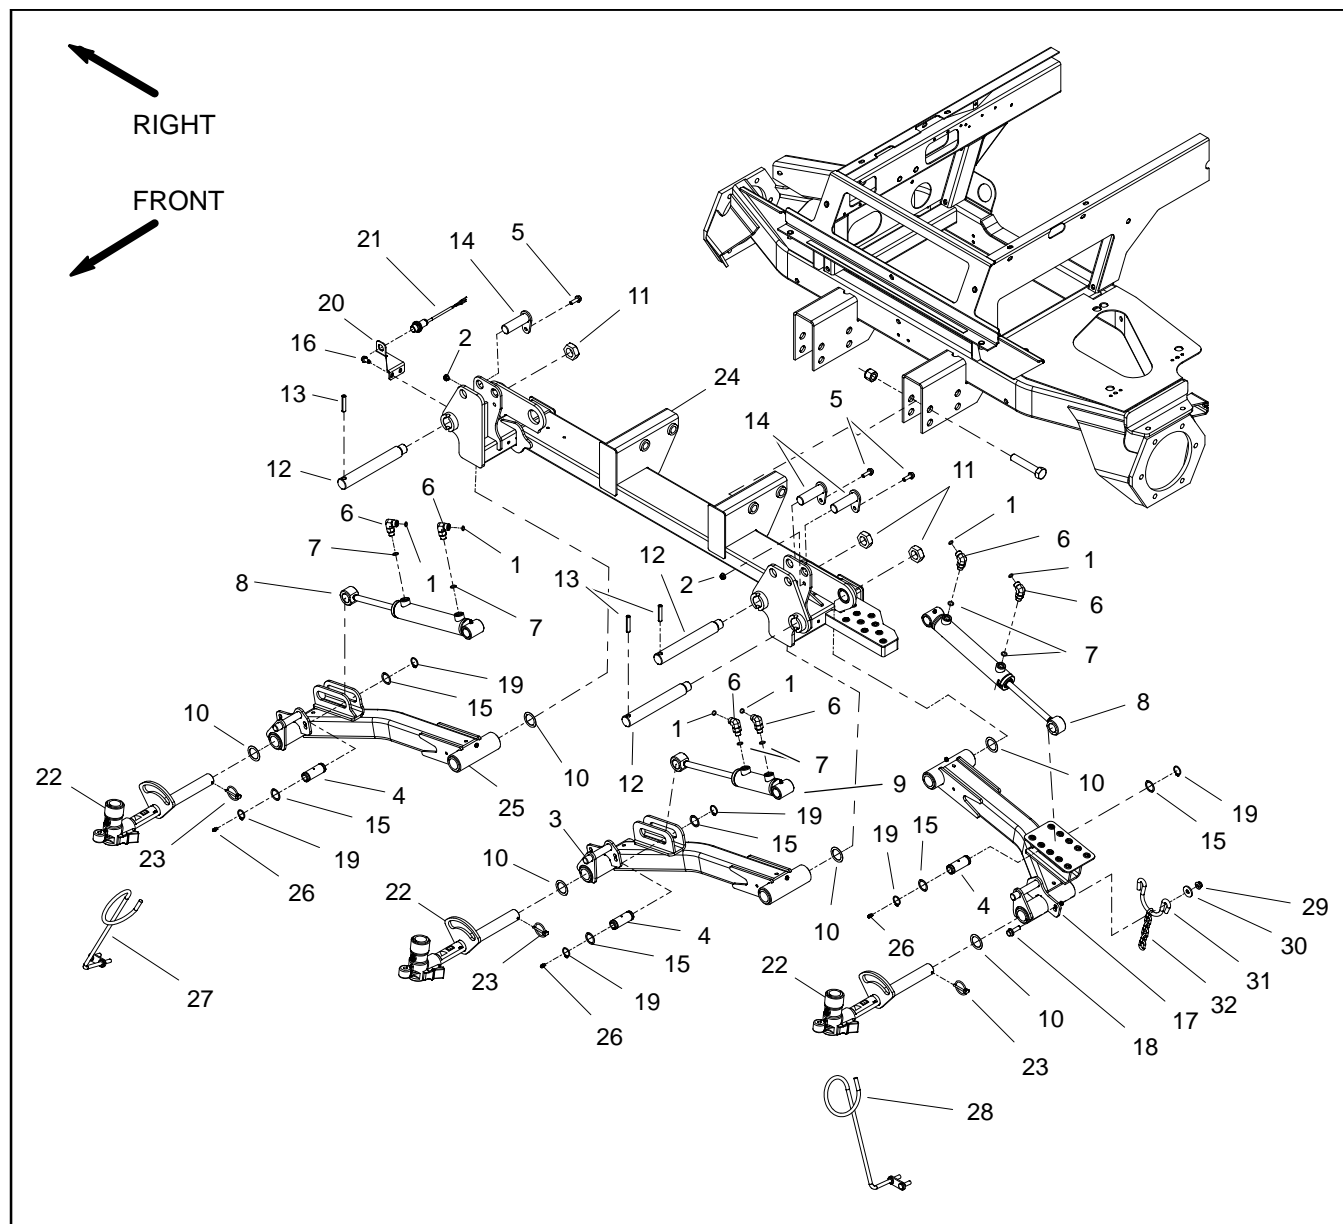
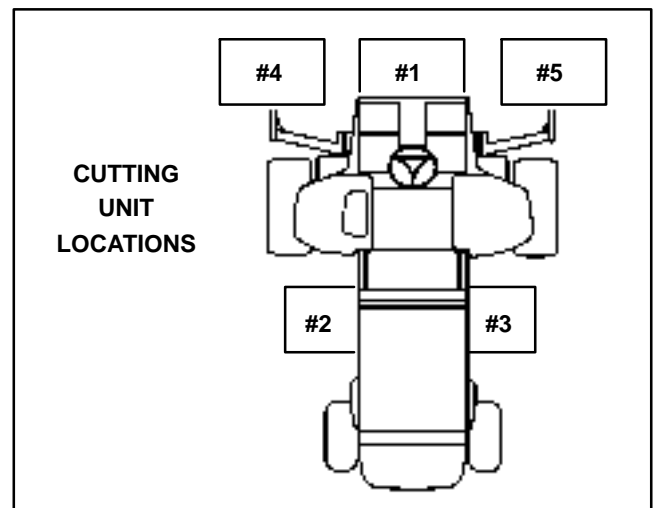

Figure 7
Figure 8
Removal (Fig 7)
3. If lift arm for either cutting unit #4 or #5 (Fig. 8) is to be removed, remove hose guide (item 27 or 28) from the cutting unit.
4. Remove one (1) retaining ring and washer from the cylinder pin (item 4). Remove cylinder pin from the lift arm and cylinder rod clevis which will free lift cylinder from lift arm.
5. Loosen and remove lock nut (item 11) from lift arm pivot pin.
6. Support lift arm and pull lift arm pivot pin from lift arm and frame. Locate and remove thrust washer (item 10) from rear of lift arm during pivot pin removal.
7. Disassemble lift arm as needed using Figure 7 as a guide.
Installation (Fig 7)
1. Assemble lift arm using Figure 7 as a guide.
2. Position lift arm to frame. Fit thrust washer (item 10) between rear of lift arm and frame. Slide pivot pin into frame and lift arm. Align roll pin in pivot pin with slot in frame flange.
3. Install and tighten lock nut (item 11) to secure lift arm pivot pin.
5. Make sure that one (1) retaining ring and washer are installed on cylinder pin (item 4). Insert cylinder pin through the lift arm and lift cylinder clevis. Secure pin with second washer and retaining ring. Make sure that retaining ring is fully seated in pin.